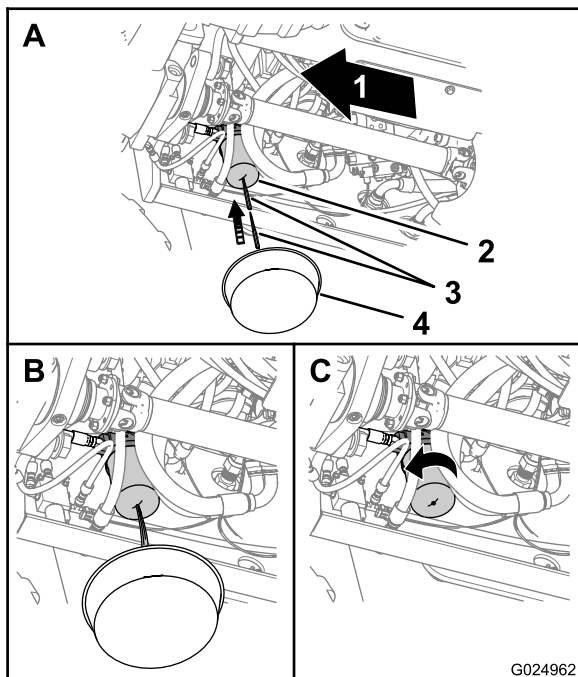

Figure 97
1. Place a drain pan under the transmission-oil filter (Figure 97).
2. Puncture the bottom of the transmission filter, and allow the residual hydraulic fluid to drain into the drain pan (Figure 97).
3. Remove the transmission filter with a filter wrench and discard the filter (Figure 97).
6. Install the new filter by hand and tight the filter 1/2 to 3/4 turn after it makes contact with the filter head (Figure 97).